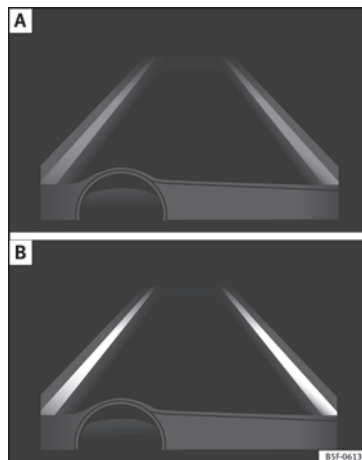

Fig. 206 On the instrument panel display: Indication on the Lane Assist system display (example 1).
- The system is active, but not available, either because the minimum speed has not been reached or because the lane lines are not recognised »» **Fig. 206 A**.
- The system is active and available, both lane lines are recognised. The steering angle is not being corrected at this moment »» **Fig. 206 B**.